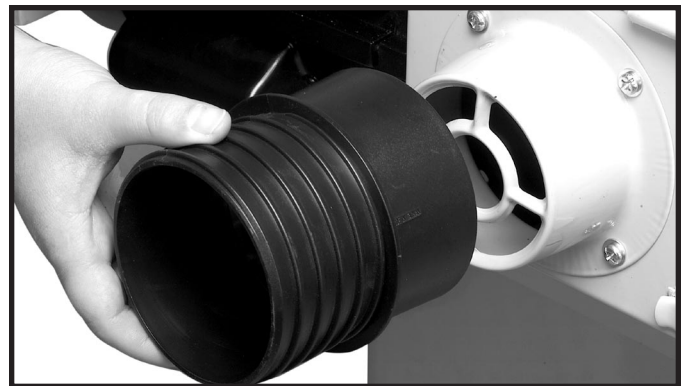

Fig. 18
3. **NOTE:** If this machine is to be used with a dust collection system, slide the 4" O.D. hose connector over the dust port as shown in Fig. 18.